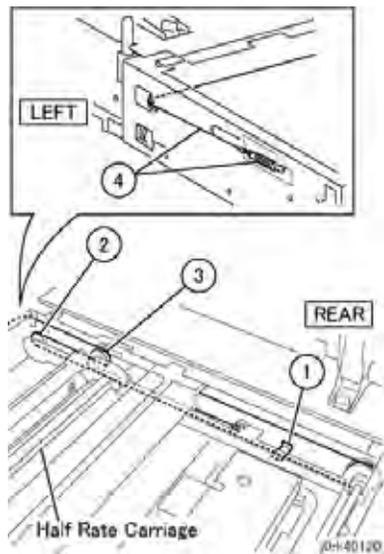

Figure 11 Carriage Cable Spring End
5. Install the spring end of the Carriage Cable (Figure 11)